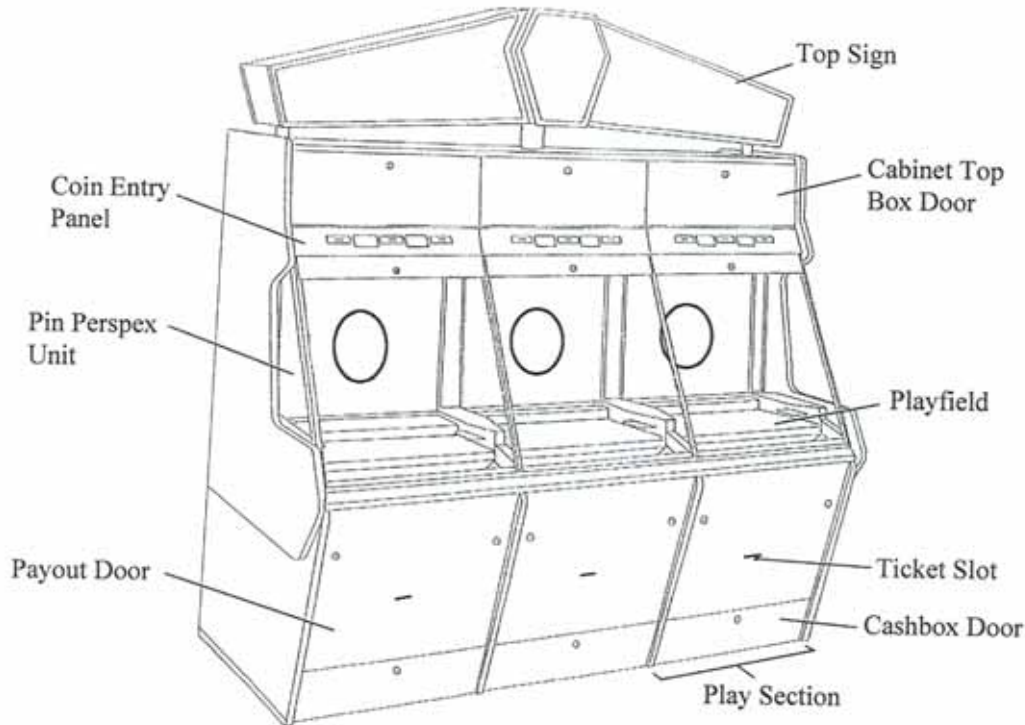

Figure 1 - General View of 3 Player Gold Coast Machine
- Figure 1 - General View of Gold Coast Machine4